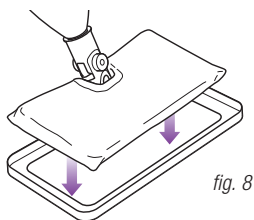

fig. 8
- 1 The Carpet Glider can be used with the Rectangular Head to lightly steam your carpet and area rugs. Just place the mop head with cleaning pocket attached into the glider. **(fig. 8)**